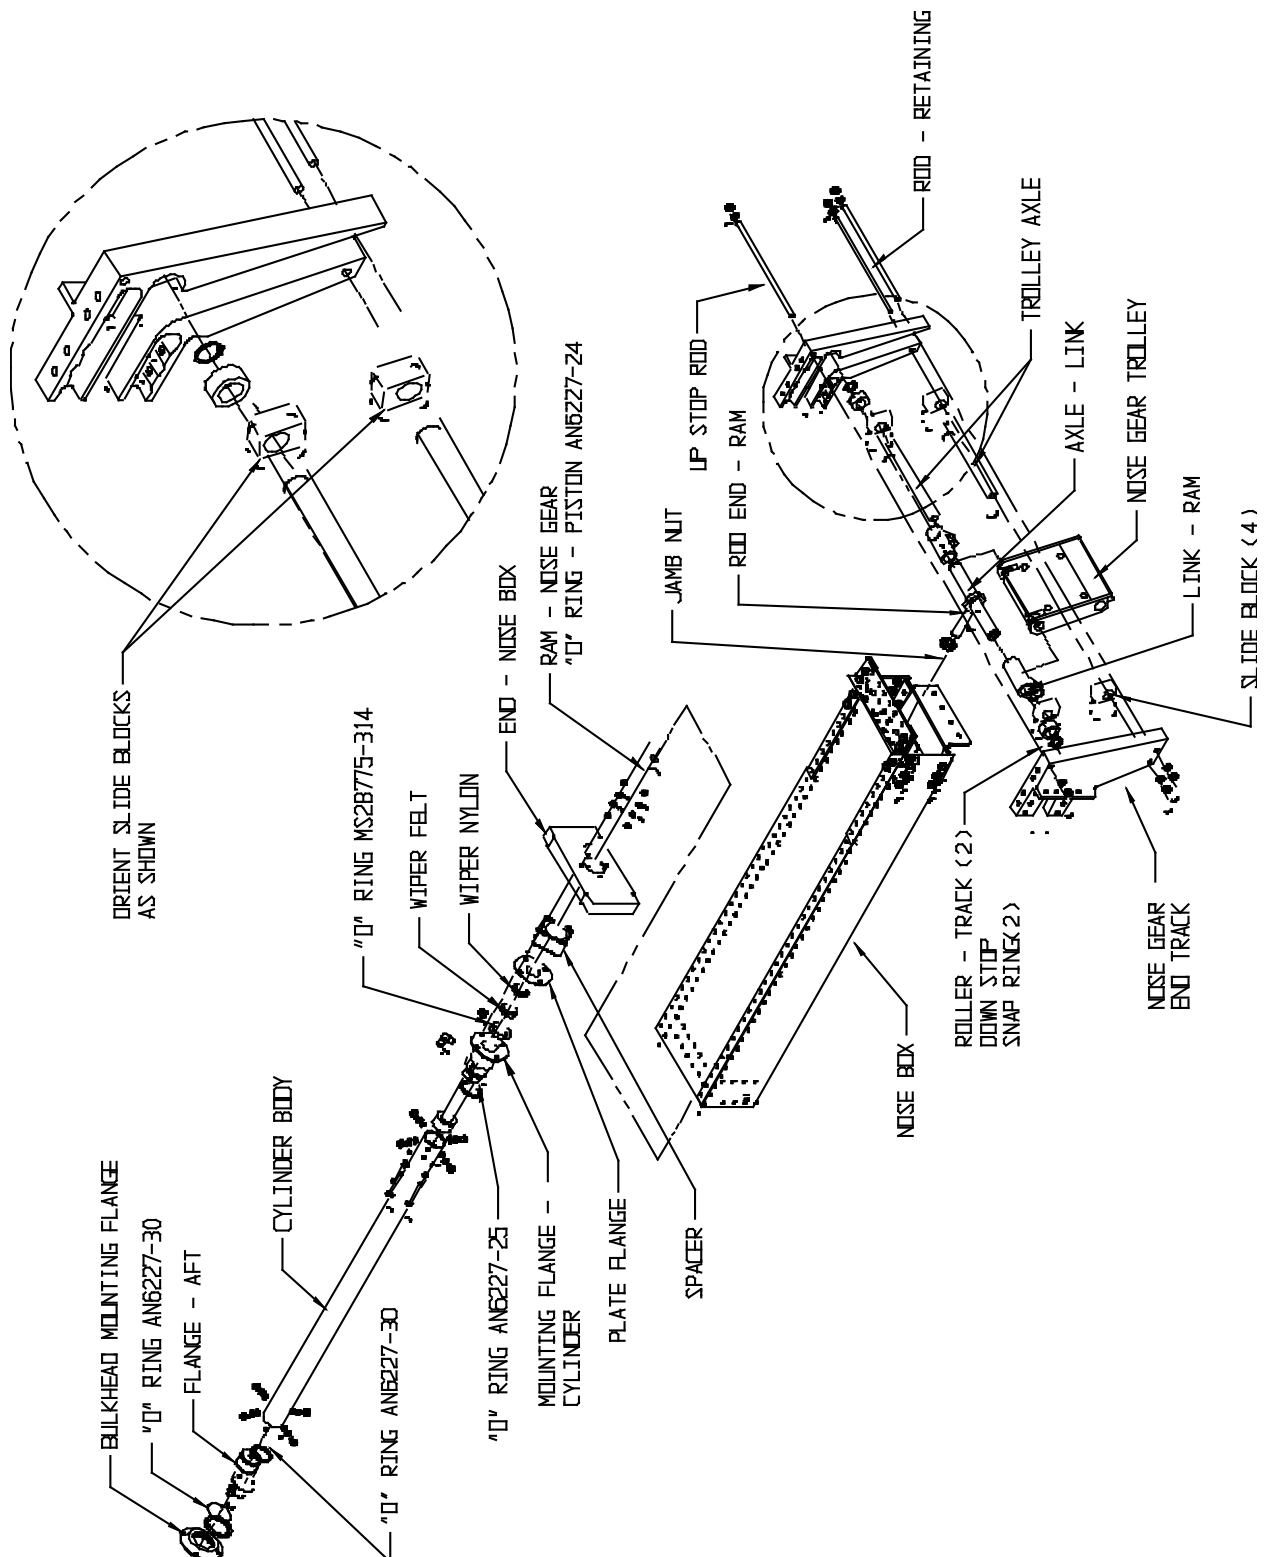

FIGURE 2.9 ASSEMBLY - NOSE GEAR BOX AND RETRACTION
The nose gear has an over-center down lock. Retraction occurs when pressure is applied to the forward face of the actuator piston and the carriage is drawn along the tracks in the nose box as shown in figure 2.9. Gear position light proximity switches are closed when the piston containing the magnetic material has reached either end of its travel.
The up stops nests in the up-stop bolt. See figure 2.9 and 2.10 for locations and assembly. Nose gear proximity switches are located on clips that are mounted on the outer cylinder body, one on each end. The most forward switch is for the gear down lights and most aft is for the gear up position lights. Set the proximity switch mounting clip along outer cylinder body to a position such that the light goes out when the over-center track is about $\frac{1}{4}$ inch from bottomed position while traveling in the up direction. Lights should come on about $\frac{1}{8}$ inch from the bottomed position while traveling in the down direction. The cylinder piston has a magnet that will activate the proximity switches.
Gear must be in down position. Unbolt the spring from the trolley. Relieve the pressure in system, place gear selector handle in neutral position (lever between up and down), and remove rear hydraulic line. Remove (4) bolts on forward end of cylinder. Drain fluid. Pull aft to expose internal piston rod. Loosen jamb nut on forward side of cylinder ram at rod end. Turn piston from aft side of nose box out of rod end. Push on trolley assembly to unlock and remove the bottom thru-bolts. Slide out of nose box. Note: On installation, adjust piston so it bottoms out on aft flange at the same time as the bearings when nose gear is in locked position. Also note orientation of trolley blocks. The side with the most edge distance from hole is to go toward each other on inside of trolley. (See figure 2.9 for details).